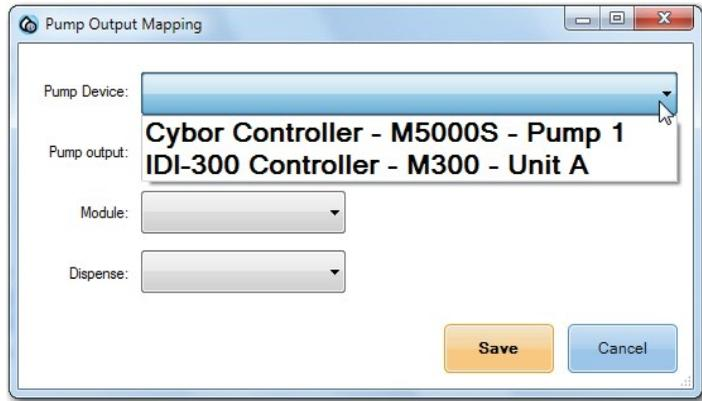

FIGURE 4-11: Selecting a pump device
2. In the Pump Output Mapping dialog box, select a pump controller. See Figure 4-11.